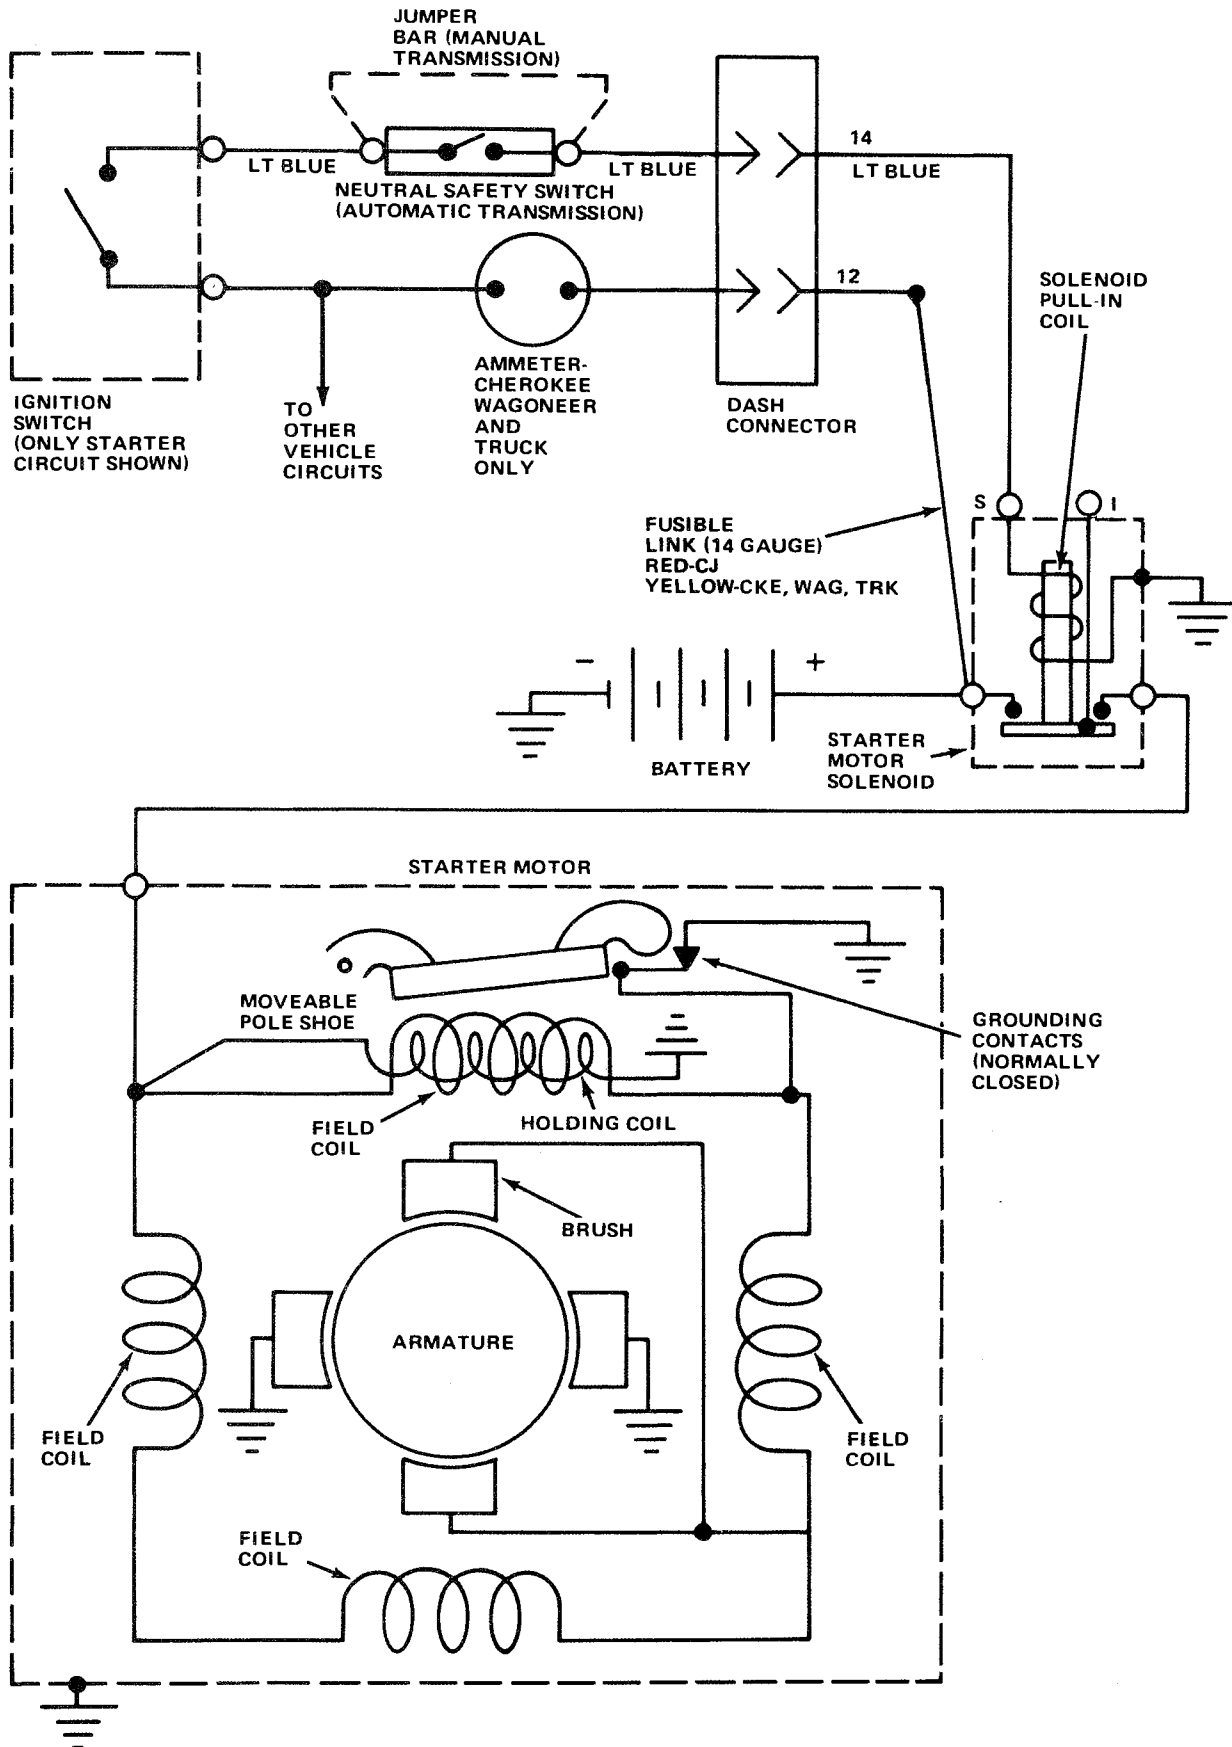

Fig. 1F-2 Starter System Schematic
(1) Disconnect all wires and cables from solenoid.
(2) Connect ohmmeter leads as shown in figure 1F-3.